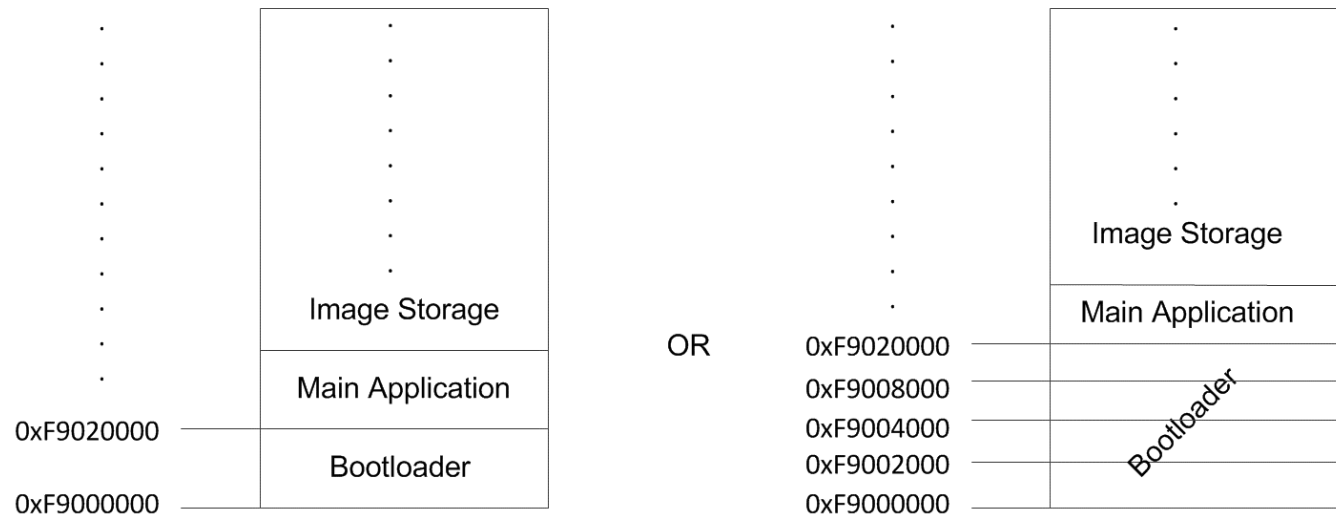

Figure 32. Boot Flash Memory Layout
All applications require both the controller and DMD components for reliable operation. The system uses an external parallel flash memory device loaded with the DLPC900 configuration and support firmware. The external boot flash must contain a minimum of 2 sectors, where the first sector starts at address 0xF9000000 which is the power-up reset start address. The first 128 kB is reserved for the bootloader image and must be in its own sector and can be made up of several smaller contiguous sectors that add up to 128 kB as shown in Figure 32. The remaining sectors contains the rest of the firmware. The default wait-states is set for a flash device of 120-ns access time. For a faster flash access time, refer to the Program Memory Flash Interface on how to program new wait-state values.
- PM_CSZ_1 – dedicated CS for boot flash device (≤ 128 megabit). Refer to the Figure 32 for the memory layout of the boot flash.